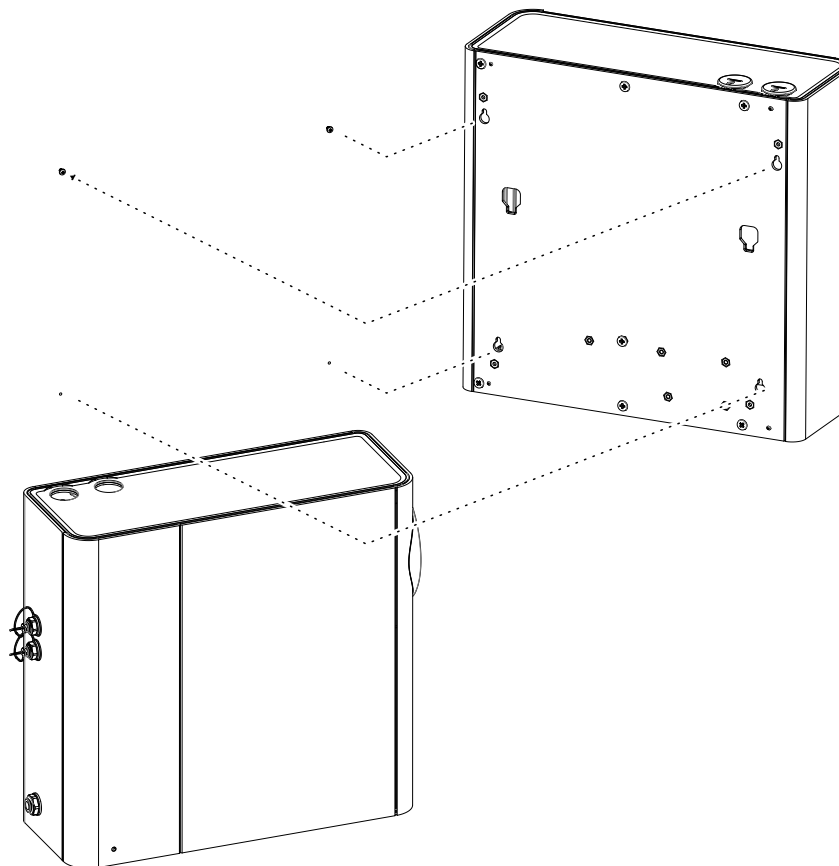

Figure A-13: Reposition the Local Relay StaX above the detector
5. Reposition the Local Relay StaX above the detector, inserting the two mounting screws into their respective keyholes (Figure A-13).